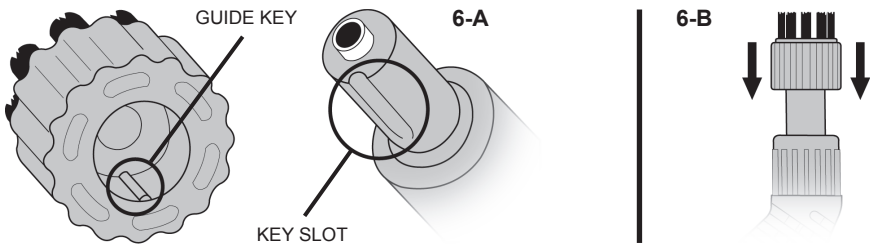

FIGURE 6
NOTE: The Nylon Utility Brushes and Brass Utility Brush are all attached in the same manner. A Nylon Utility Brush is illustrated in FIGURE 6 as an example.
1. Align selected Utility Brush with Jet Nozzle. Guide key inside of Utility Brush should line up with key slot on Jet Nozzle tip (FIGURE 6-A).
2. Firmly press Utility Brush onto Jet Nozzle (FIGURE 6-B).